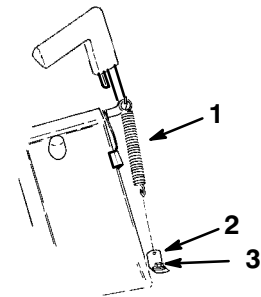

Figure 36
5. Secure the spring bracket and discharge tunnel to the lawn mower with the left front bolt (Fig. 36).
- Hook the end of the spring through the small hole on the spring bracket (Fig. 36).